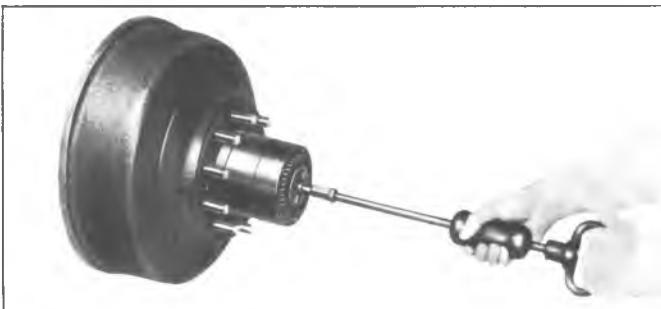

Fig. 65—Removing Axle Shaft—11,000 # Axe
2. Install slide hammer (Tool J-2619) and remove axle shaft, as shown in figure 65.